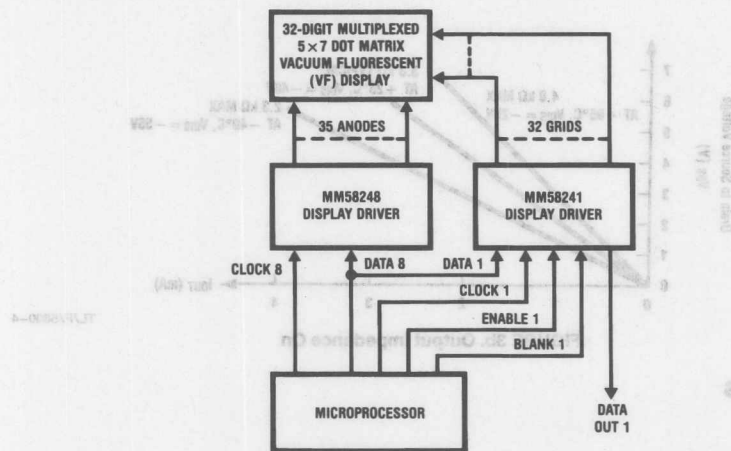

FIGURE 6. Microprocessor-Controlled Word Processor
Figure 6 shows a schematic diagram of a microprocessor-based system where the MM58241 is used to provide the grid drive for a 32-digit 5 x 7 dot matrix vacuum fluorescent (VF) display. The anode drive in this example is provided by another member of the high voltage display driver family, namely the MM58248, which does not require an externally generated load signal.